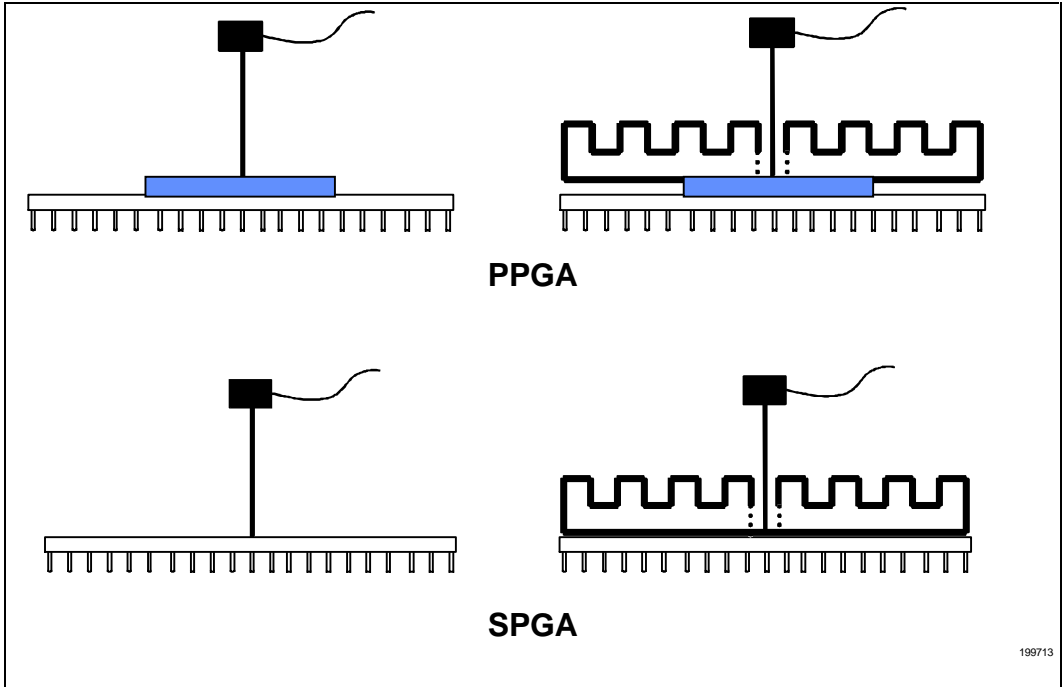

Figure 14. Technique for Measuring T_C on PPGA and SPGA Packages
To verify that the proper T_C (case temperature) is maintained, it should be measured at the center of the package top surface (opposite of the pins). The measurement is made in the same way with or without a heat sink attached. When a heat sink is attached, a hole (smaller than 0.150" diameter) should be drilled through the heat sink to allow probing the center of the package. See Figure 14 for an illustration of how to measure T_C .
- The thermocouple should be attached at a 90-degree angle as shown in Figure 14.